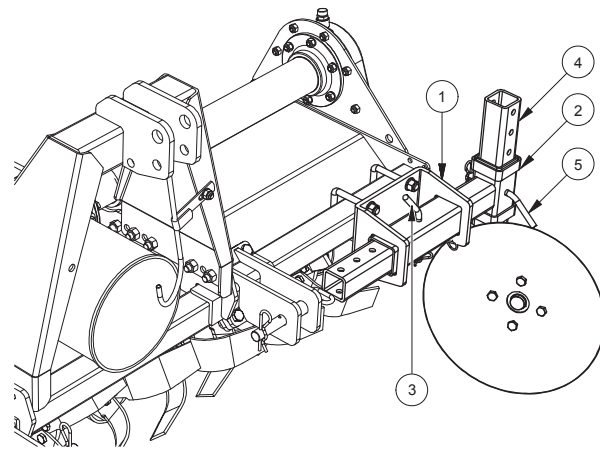

FIG. 17
- Fit the support (1, "Fig. 17") onto the front bar; secure it near the side of the machine.
- Insert the support arm (2), according to the chosen extension and secure it into position with the pin (3).
- Insert the conveyor disc (4) to the chosen height and secure it into position with the pin (5).